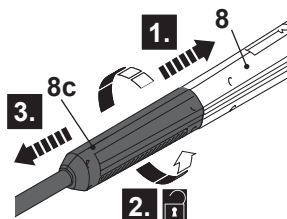

Fig. 8
- > Press the extension lance (8c) towards the spray gun (8) and turn it anti-clockwise to remove it (Fig. 8).